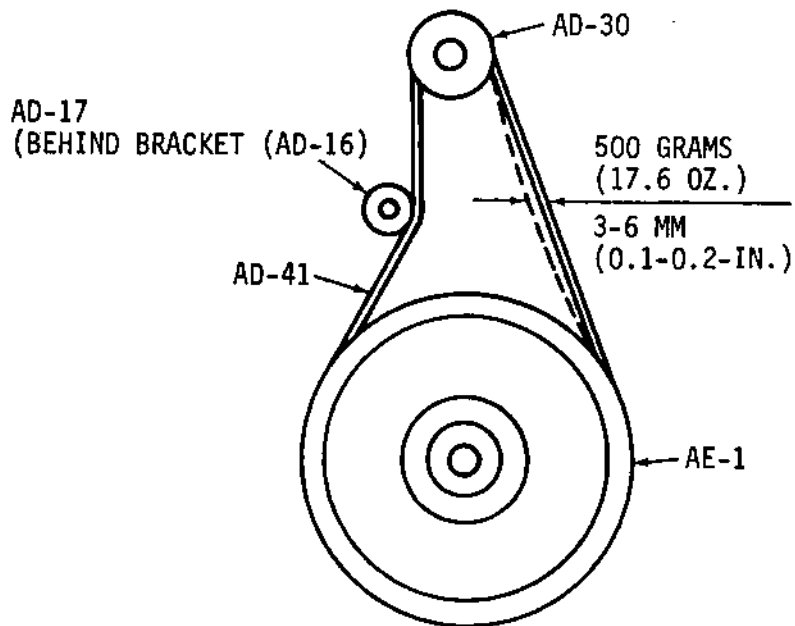

Figure 5-4. ADJUSTMENT OF TIMING BELT (AD-41)
C. TIMING BELT (AD-41) (REFER TO FIGURE 5-4)
2. Adjust position of tensioner (AD-17) so that movement of belt (AD-41) (side away from tensioner) when hand depressed with a pressure of 500 grams (17.6 oz.) travels inward to a maximum distance of 3-6 mm (0.1-0.2 in.). (See Figure 5-4)